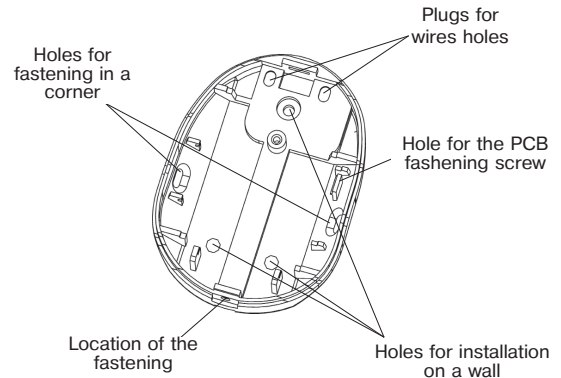

Figure 2 – The Detector base
- put off printed circuit board (PCB) by pushing PCB locating pin (see Figure 2);
- drill the holes (Figure 2) in the base of the Detector case. They will be used for fastening of the Detector and wiring;